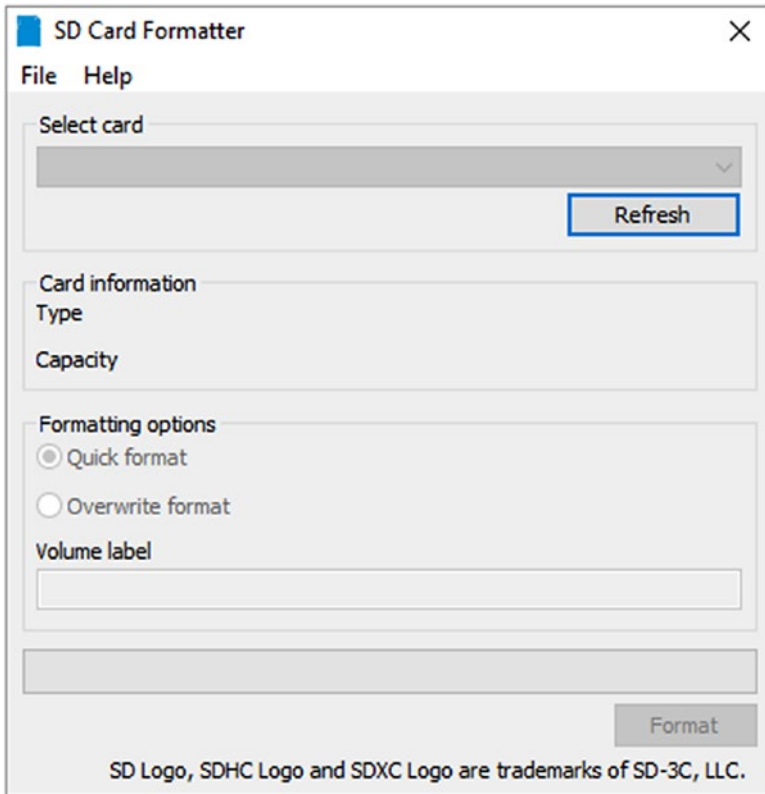

Figure 2-2. *SD Card Formatter*
8. If you have downloaded and installed SDFormatter, open it. You should see a dialog box similar to the one shown in Figure 2-2.